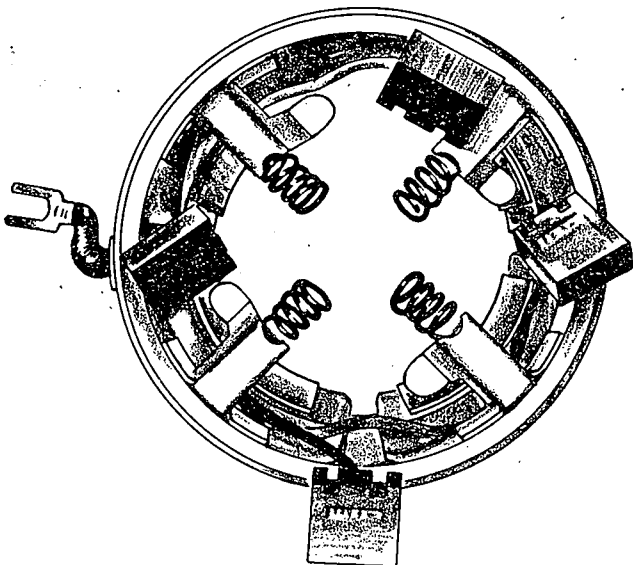

FIGURE 37. BRUSHES
1. Inspect brushes (Figure 37) and clean all parts carefully with a dry cloth and compressed air if it is available.